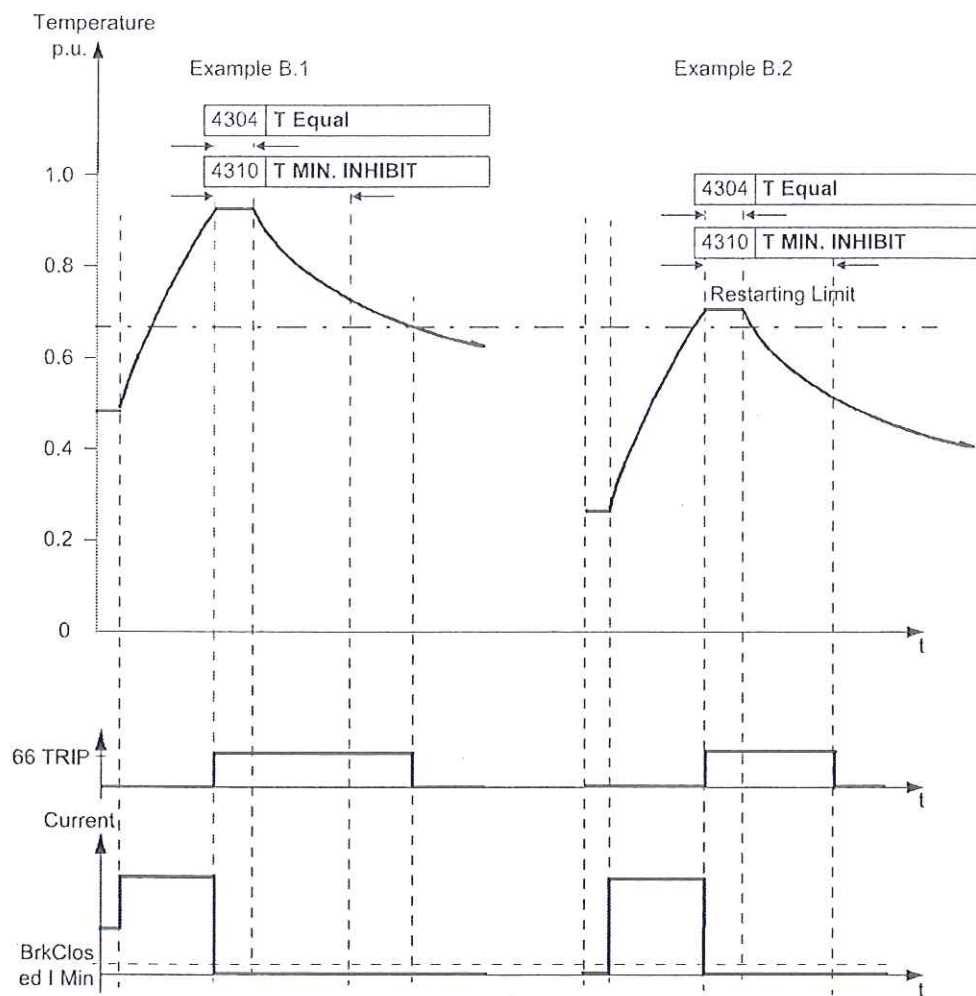

Figure 2-34 Starting up according to examples B.1 and B.2
1. A startup brings the machine from load operation into a temperature range far above the thermal restarting limit and the machine is stopped. The minimum inhibit time and the equilibrium time are started and "66 TRIP" is reported. The temperature cool-down below the restarting limit takes longer than 4310 T MIN. INHIBIT and 4304 T Equal, so that the time passing until the temperature falls below the temperature limit is the decisive factor for clearing the message "66 TRIP". The thermal profile remains "frozen" while the time expires (see Figure 2-34, to the left).
2. A startup brings the machine from load operation into a temperature range just above the thermal restarting limit and the machine is stopped. The minimum inhibit time and the equilibrium time are started and "66 TRIP" is reported. Although the temperature soon falls below the restarting limit, the blocking "66 TRIP" is preserved until the equilibrium time and the minimum inhibit time have expired (see Figure 2-34, to the right).